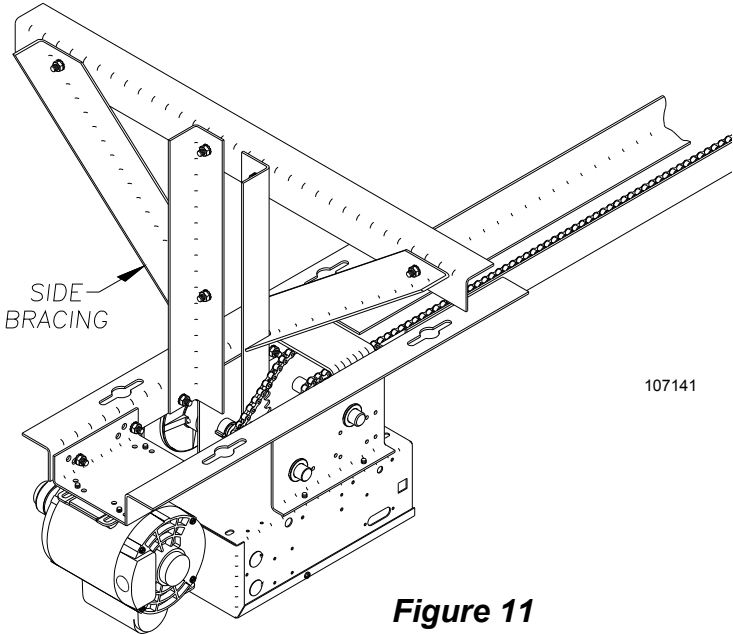

Figure 11
8) Figure 11 details a typical method of hanging the operator from the ceiling. Each installation will vary due to the difference in building structures; but in all installations side braces should be used to further strengthen the installation. If the operator track (rail) is longer than 15 feet a mid support is recommended.